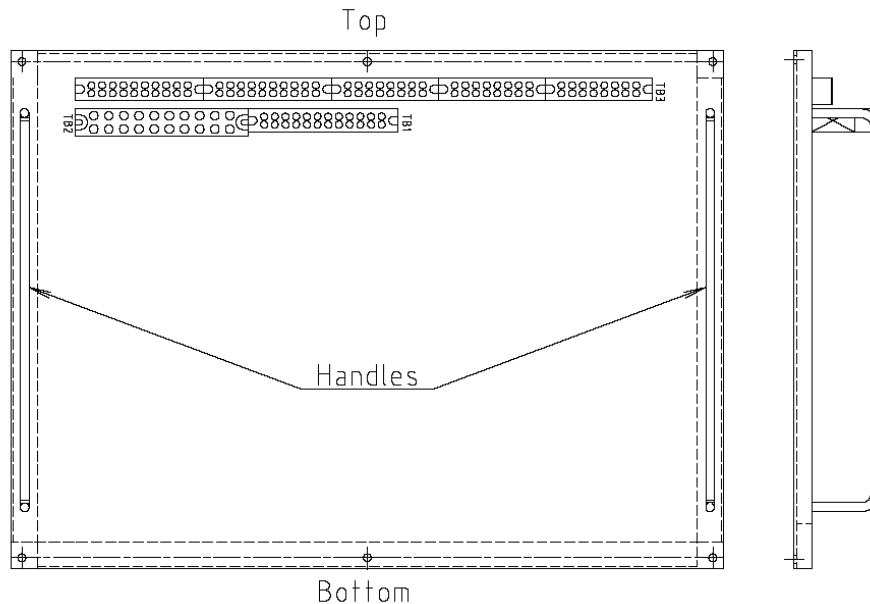

FIGURE 2-15: CONTROLLER OUTLINE
- ◆ Refer to **Figure 2-15**. Hold tightly onto the handles that are located on the left and right side of the controller.